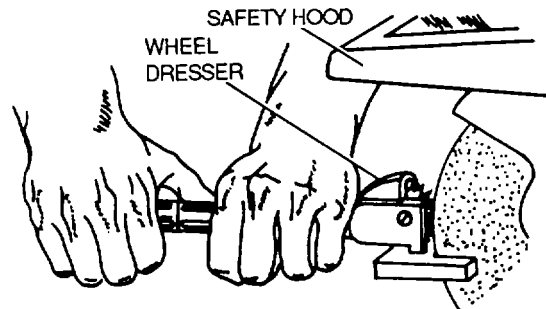

Figure 6-6. Dressing a Grinding Wheel
(1) Dressing procedure. To dress a wheel, proceed as follows (see figure 6-6):
- (b) Set the wheel dresser on the tool rest as shown in figure 6-6 and bring it in firm contact with the wheel.